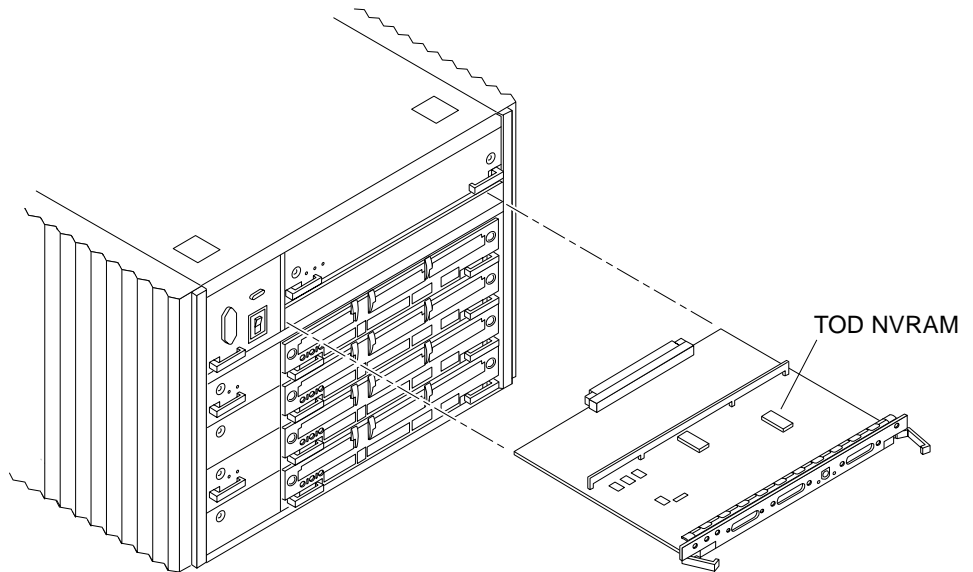

FIGURE 6-2 Clock+ Board
The clock+ board slot (FIGURE 6-2) is located near the top of the system, immediately below the peripheral power supply. The illustration shows an Enterprise 4500 server, but the location is similar for the Enterprise 5500 and 6500 servers.
4. **Pull the ends of both extraction levers outward simultaneously to release the board from the centerplane receptacles (FIGURE 6-2).**
2. **Ensure that both extraction levers are in the outward position as you slide the board toward the backplane connectors** (FIGURE 6-2).